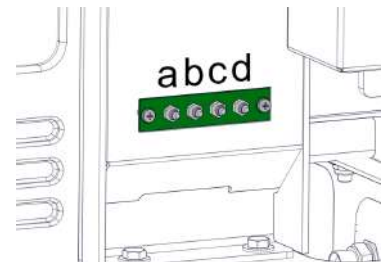

Figure 36 - Greasing Panel
1. Locate the greasing panel (Figure 36).